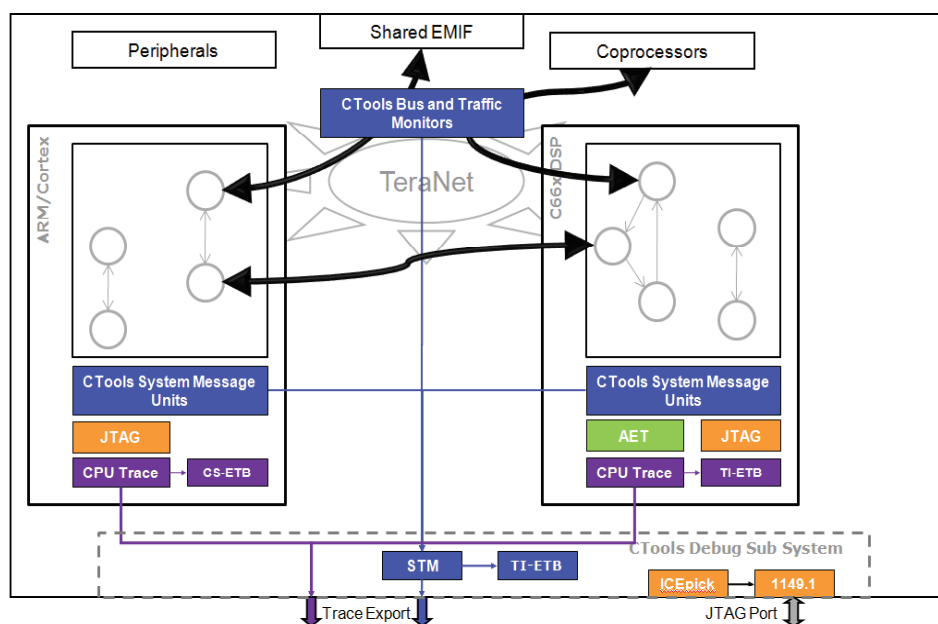

Figure 1. KeyStone heterogeneous multicore SoC architecture with debug and trace perspective.
- Lastly, the ability to **identify blocked processes and to determine processing deadlocks and system inefficiencies** is required. The engineering team developing a software solution on a multicore SoC must have the confidence that the entire system works in real time and is designed and partitioned to optimize the silicon architecture. To be assured of this, software developers must have a strong real-time view of their solution at work. The result is a well integrated product that is ready for field trial and ultimately deployment. Figure 1 exemplifies an example of TI's KeyStone architecture in the debug paradigm.